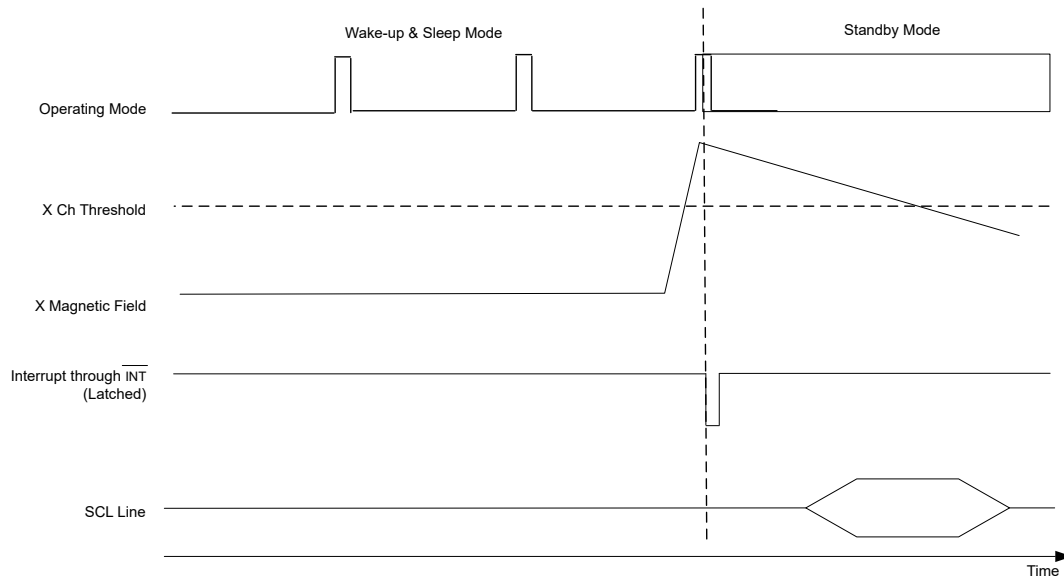

図 7-11. Wake-Up and Sleep Mode Operation With Back-Up Battery
- If a threshold detection even occurs, the $\overline{\text{INT}}$ signal asserts low to wake-up the microcontroller. When $\overline{\text{INT}}$ goes low, perform the 16-bit T, X, Y, Z register read with one single read command (see 図 7-11).